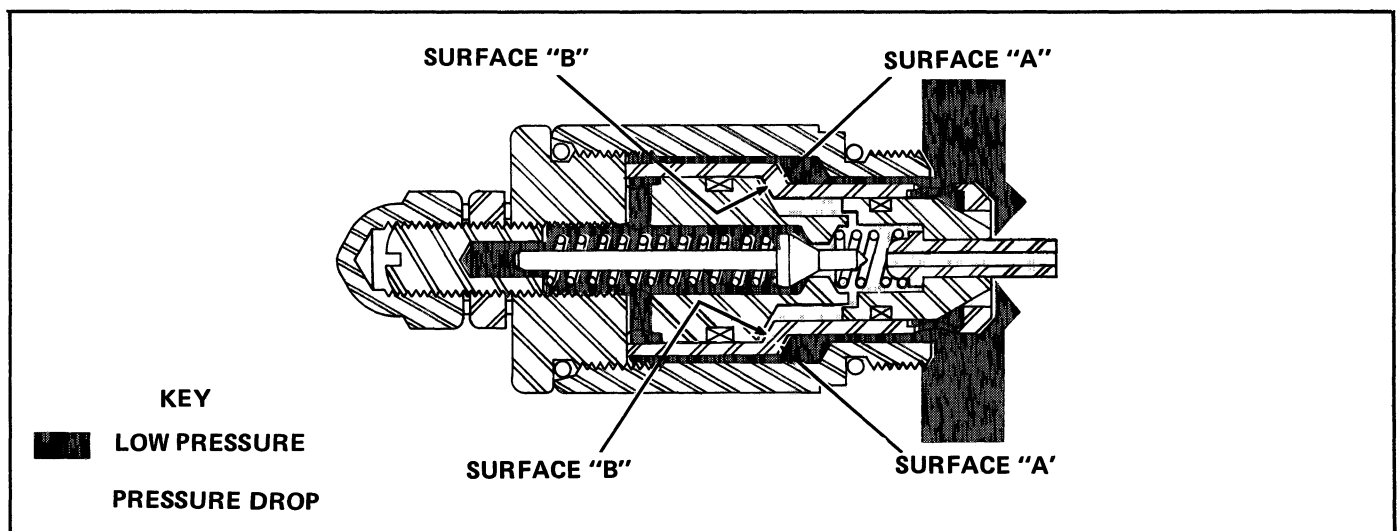

Figure 13.
2. Figure 13. The force on surface "A" then is greater than the force on surface "B", which unseats the poppet sleeve and poppet allowing oil from the reservoir to flow into the working circuit to augment the pump and prevent cavitation.